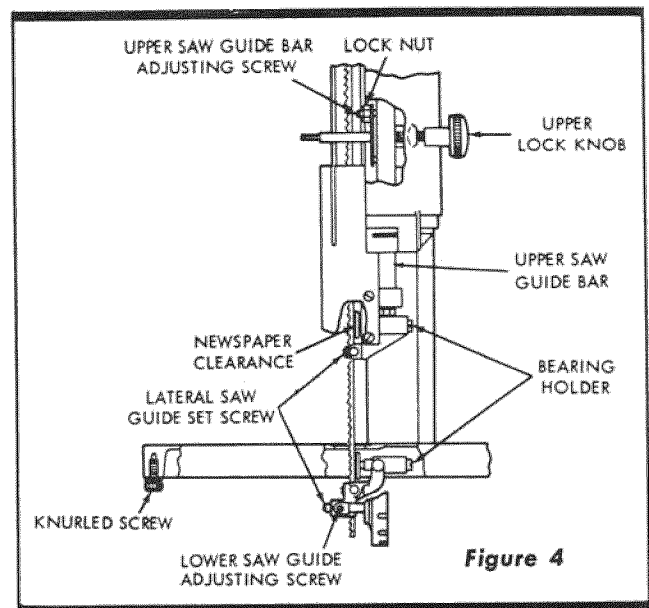

Figure 4
- a. If an adjustment is necessary, remove the cover and turn the upper saw guide bar adjusting screw, either in or out as required. (See figure 4.) When adjustment is completed lock the adjusting screw lock nut to maintain the adjustment.
blade. (See figure 4.) Using a screwdriver, turn the the bearing holder in or out until the roller is in correct position. The blade should touch these rollers only when cutting, not when saw is running free.